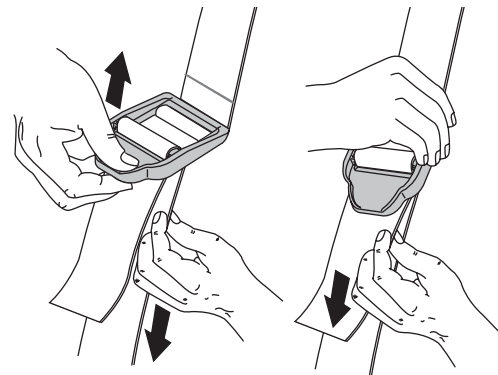

Fig. 8
- While standing in the operating position, adjust the length to fit the operator's size. Pull the tab to lengthen, pull the strap to shorten (Fig 8).